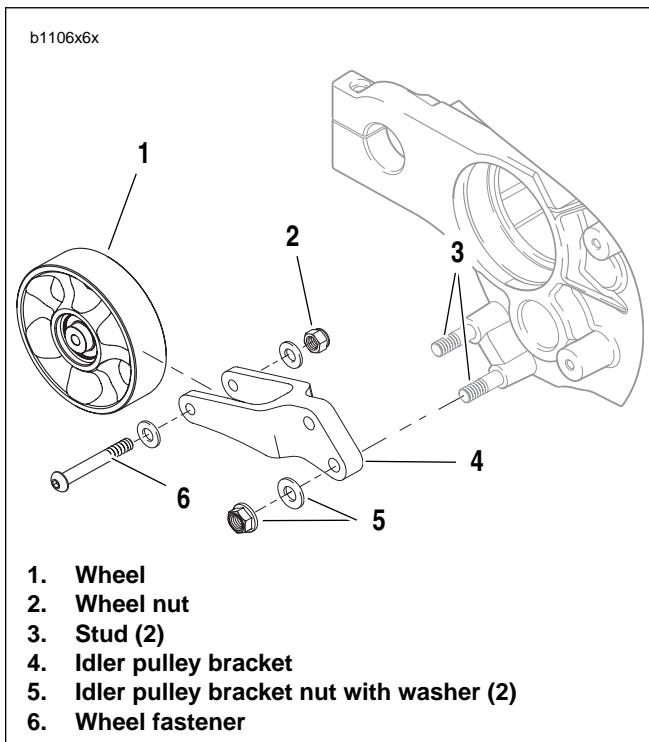

Figure 6-99. Idler Pulley Assembly
- See Figure 6-99. Remove both bracket nuts with washers (5) attaching idler pulley bracket (4) to studs (3).
- Inspect pulley by spinning wheel (1) and checking for excessive wheel bearing wear. See INSPECTION / 1.9 DRIVE BELT.
- If pulley wheel needs replacement, remove fastener (6) and nut (2) from idler pulley bracket (4) and discard. Replace with **new** pulley wheel (1).